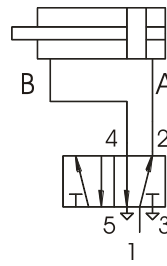

fig 5
### Compressed air connection, fig 5, 6
1. Remove threaded stopper (1) on cylinder (2) and refit on parallel connection.
3. Connect pneumatic hoses as per diagram; fig 5.